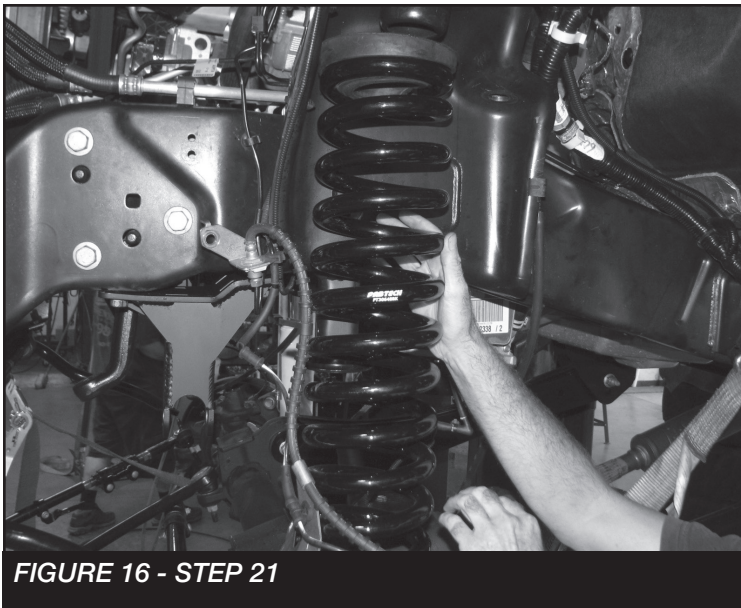

FIGURE 16 - STEP 21
21. Install FT30123BK (Coil Spring) using the factory upper isolator. **SEE FIGURE 16**